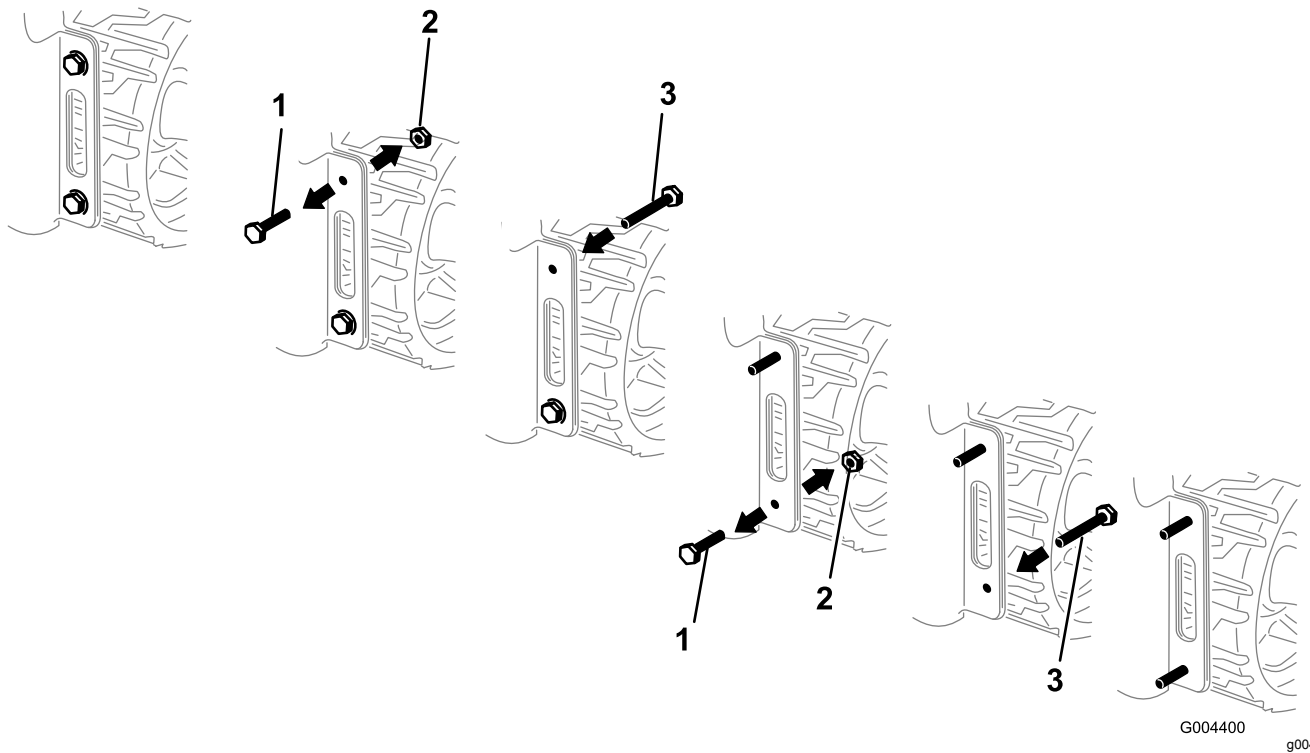

Figure 3
2. One at a time, remove and discard the 4 bolts and nuts securing sides of the lower rear panel to the frame, replacing each with a new bolt (1/2 x 1-1/2 inches) installed from the front to hold the space as pressure is released on the rear panel (Figure 3).
Note: Figure 3 shows a TX 500 series traction unit. If you have a TX 400 series traction unit it will look slightly different, but it is configured similarly.